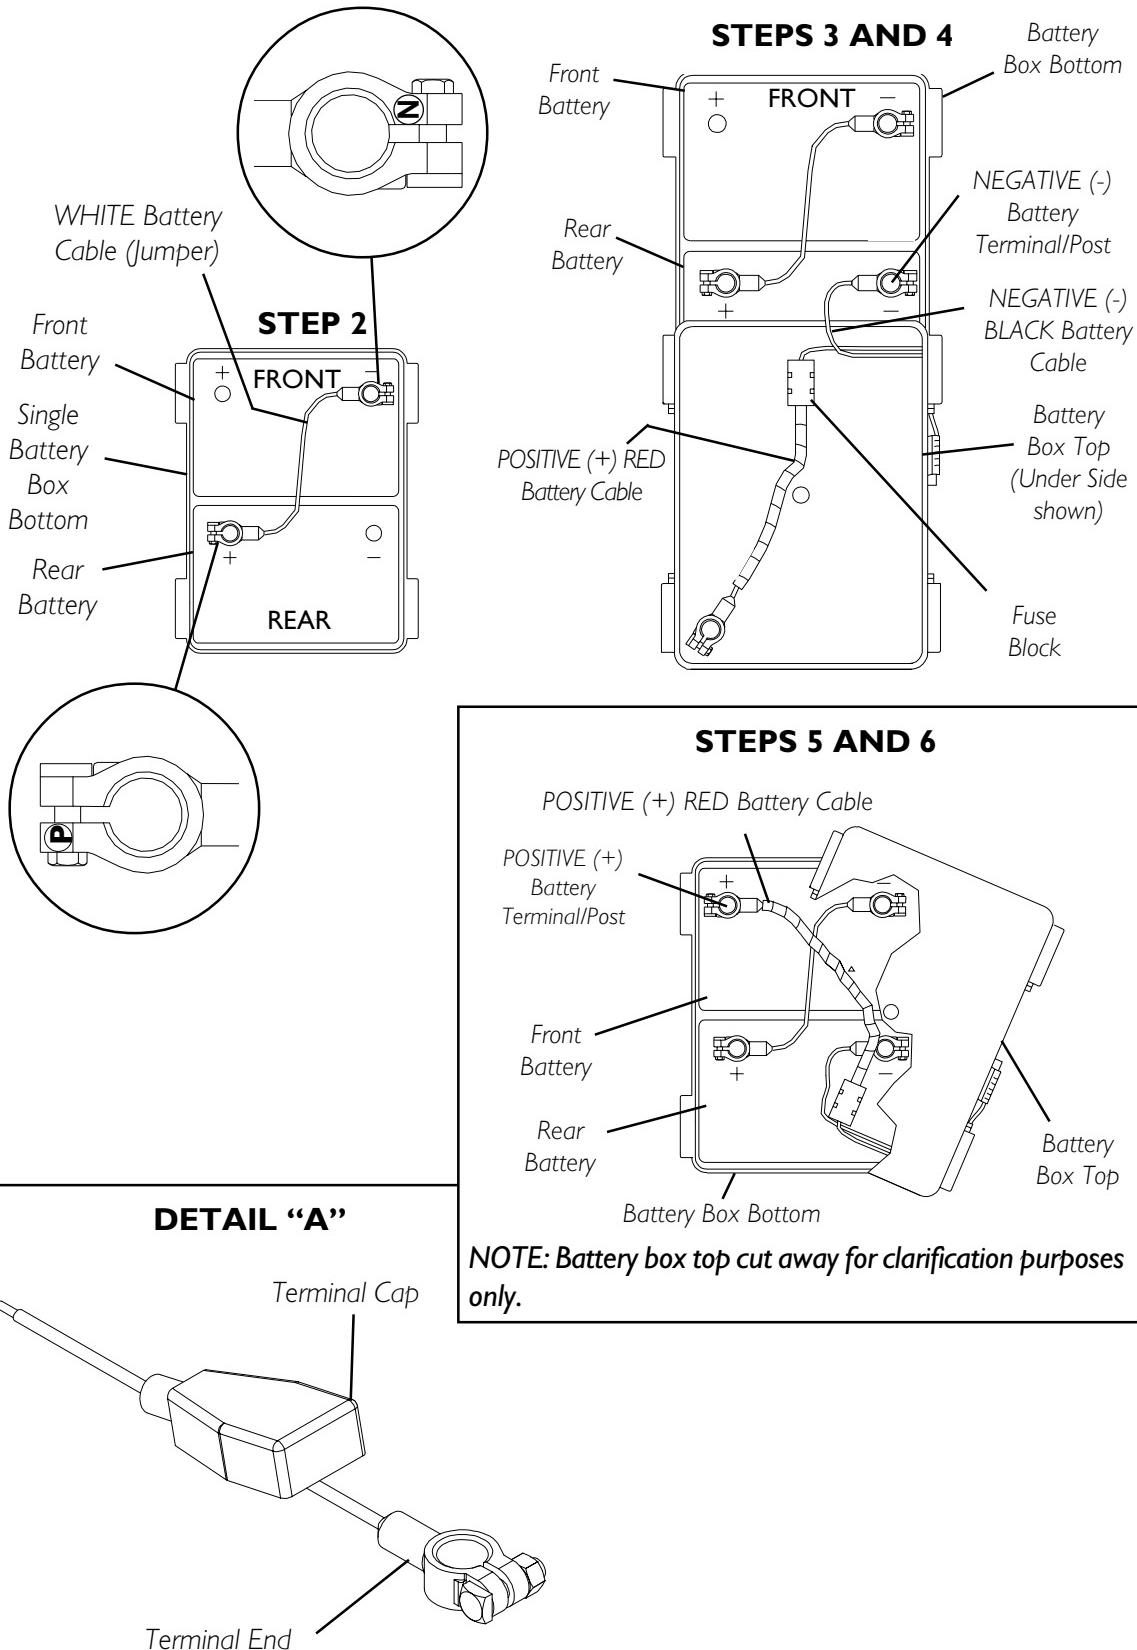

FIGURE 3 - CONNECTING BATTERY CABLES - SINGLE 22NF BATTERY BOX
22NF BATTERIES IN SINGLE BATTERY BOX (FIGURE 3)
1. Remove battery terminal cap(s) from battery terminal(s) ends. Refer to DETAIL "A" in FIGURE 3.
2. Disconnect WHITE battery cable (jumper) NEGATIVE^(N) terminal end from NEGATIVE (-) battery terminal/post of front battery and disconnect POSITIVE^(P) terminal end from POSITIVE (+) battery terminal/post of rear battery.
2. Connect WHITE battery cable (jumper) NEGATIVE^(N) terminal end to NEGATIVE (-) battery terminal/post of front battery and connect POSITIVE^(P) terminal end to POSITIVE (+) battery terminal/post of rear battery.